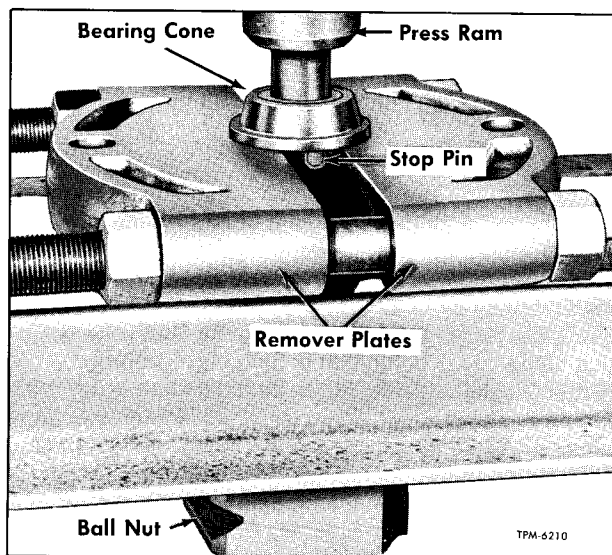
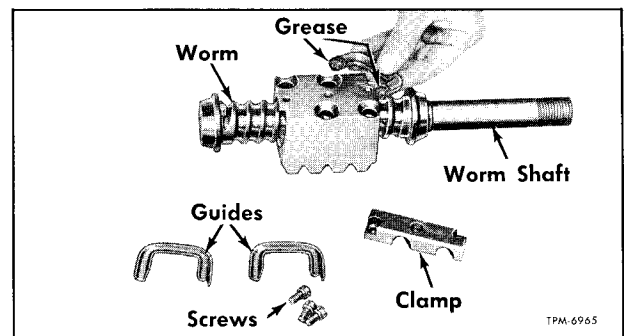
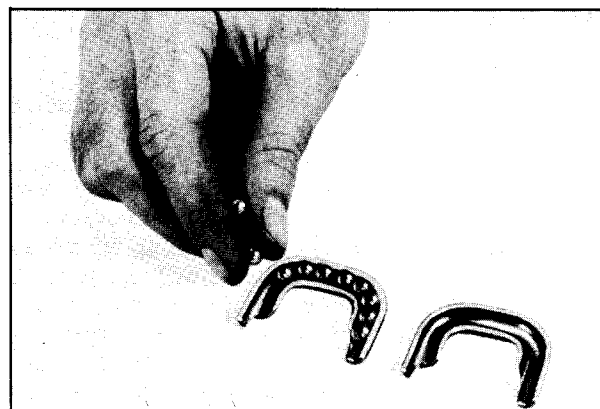

Figure 10—Removing Lower Worm Thrust Bearing Cone
Figure 11—Ball Guide Removal and Installation
Figure 16—Filling Ball Guides
9. Try action of ball nut (5) on shaft worm (31). Ball nut must rotate smoothly with no evidence of binding or roughness. Tape shaft worm at both ends of ball nut to keep nut from running up or down; then lay the assembly flat on work bench until ready to disassemble.
10. Remove lower thrust bearing cone (30) from worm shaft (31), using bearing remover plates (J-8176) (fig. 10).
11. Remove lower ball nut pin stop (27).
12. Remove screws attaching ball guide clamp to ball nut (5). Remove clamp. Pull ball guides out of ball nut as shown in figure 11. Remove balls (6) from guides by separating guides.
14. Remove upper thrust bearing cone (32) from worm shaft (31), using bearing remover plates (J-8176). Refer to figure 10. Remove upper ball nut stop pin (27) from worm shaft.
15. Remove Pitman shaft oil seal (15) from gear housing (11) and discard.
16. Remove worm shaft oil seal (24) from top cover (25) and discard. New oil seals should be used when reassembling the steering gear.
17. Removal of lower worm thrust bearing cup (28) from housing, upper thrust bearing cup (33) from top cover, needle bearing (4) from side cover, and needle bearings (16) from housing should be deferred until inspection of parts indicate necessity for further disassembly.
5. Lay one-half of a ball guide on bench with groove up. Place the remaining balls for the first circuit into groove of the guide (fig. 16). Close this half of ball guide with other half. Hold the two halves together and plug each open end with heavy grease as shown in figure 11, to prevent balls from dropping out.